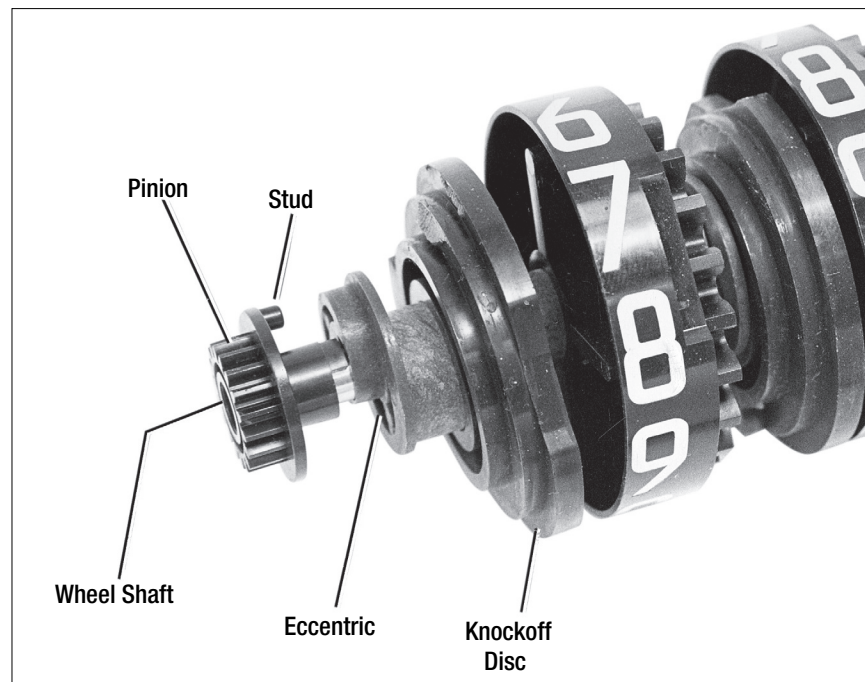

Figure 13. Character Wheel Shaft Group Parts Identification
Pinion out of time. Stud on wheel shaft pinion is not straight up (Figure 13).	Remove wheel shaft group ("G. Preset Pawl Replacement"). Rotate pinion until stud on pinion is straight up.
Pinion out of time. Stud on wheel shaft pinion is not straight up (Figure 13).	Remove wheel shaft group ("G. Preset Pawl Replacement"). Rotate pinion until stud on wheel shaft pinion is straight up.
When installing wheel shaft group in Preset, ensure that stud on wheel shaft pinion (Figure 13) is straight up and SET button is out in the 'run' position.
7. Install large extension spring between tab on knockoff plate and strap that secures left side of wheel shaft (Figure 13).